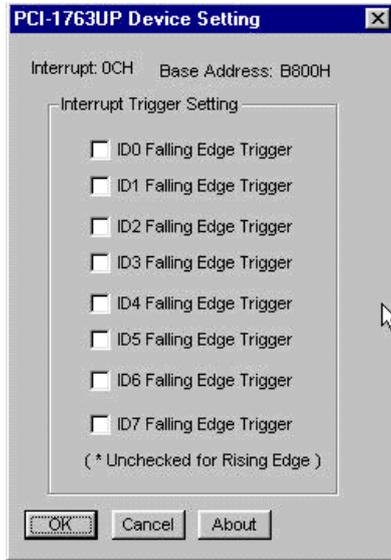

Figure 2.8: The Device Setting Dialog Box
Step 4: On the *Device Setting* dialog box (Fig. 2-8), you can configure the ID0 ~ ID7 Interrupt trigger mode either as *Rising Edge* or *Falling Edge*, and *Enable* or *Disable* the ID0 ~ ID7.